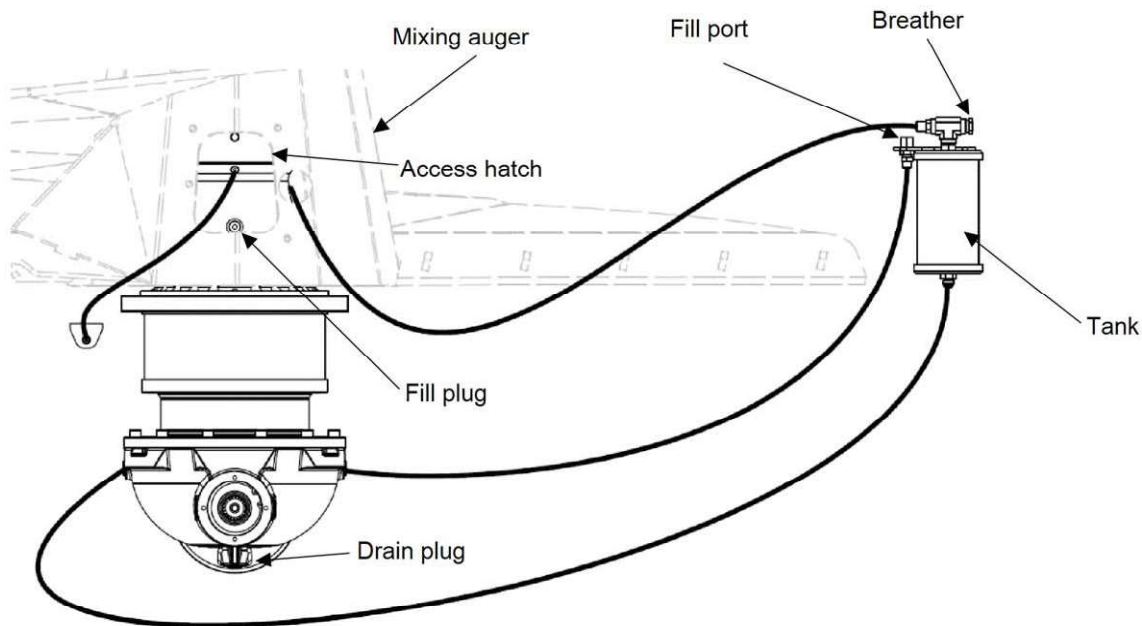

Figure 54 — Oil Tank
1. Unscrew the breather to let air out of the planetary (Figure 54). If the breather is not removed, adding oil could create excess pressure inside the planetary, which could severely damage the seals.
1. Unscrew the breather to let air out of the planetary (Figure 54). If the breather is not removed, adding oil could create excess pressure inside the planetary, which could severely